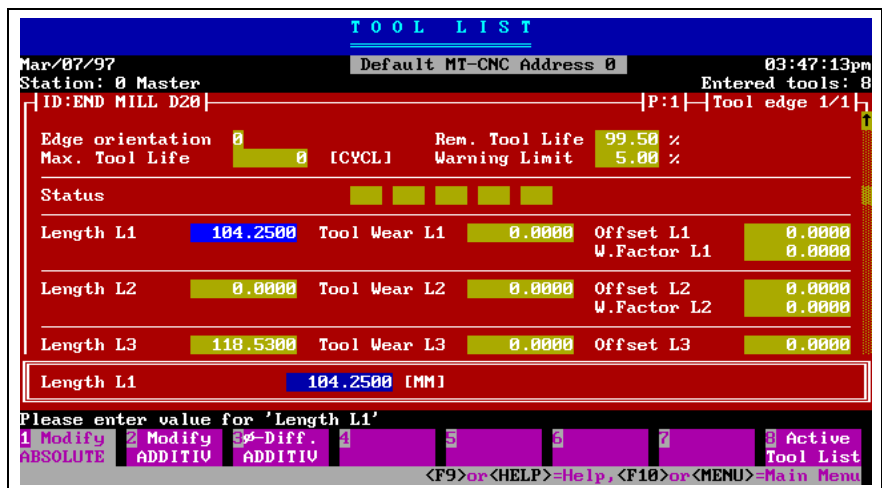

Fig. 3-9: 'Modify ABSOLUT' of a tool edge field
- 1) Move cursor bar to the desired field within basic tool data screen or tool edge data screen using the <Enter> key or the <Tab> key. A brief description of the field at the cursor position is given in the line between the boundary bottom line and the function keys (see Fig. 3-9).